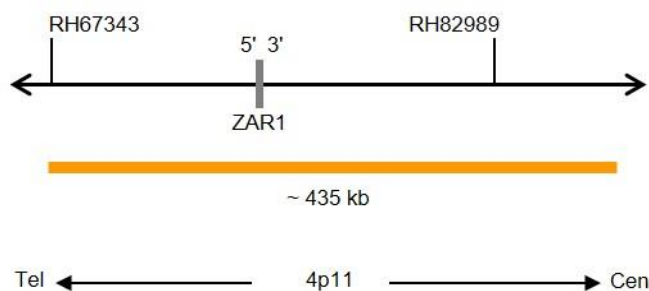

Fig. 1: SPEC 4p11 Probe Map (not to scale)
- ZyOrange (excitation 547 nm/emission 572 nm) labeled polynucleotides (~4.5 ng/μl), which target sequences mapping in 4p11* (chr4:48,329,914-48,762,386) (see Fig. 1).